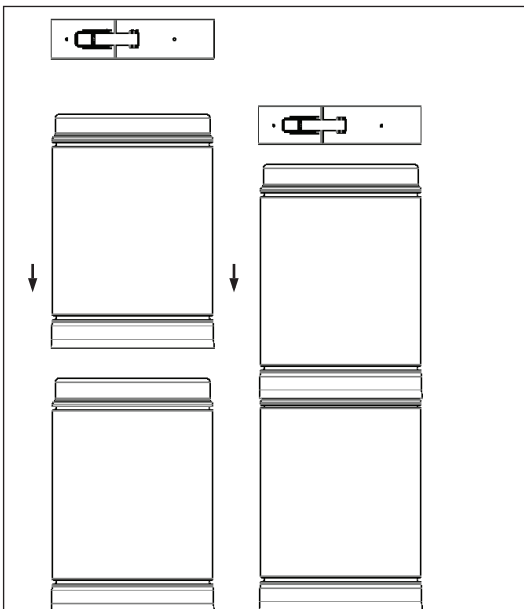

Figure 2a
-1. For a joint assembly, when assembling joints between pipe lengths, you can optionally slip the locking band loosely over the inverted bead on one end first and then, simply lower the top length onto a lower length until the inlet end (female end) is fully seated over the outlet end (male end) See **Figure 2a**.